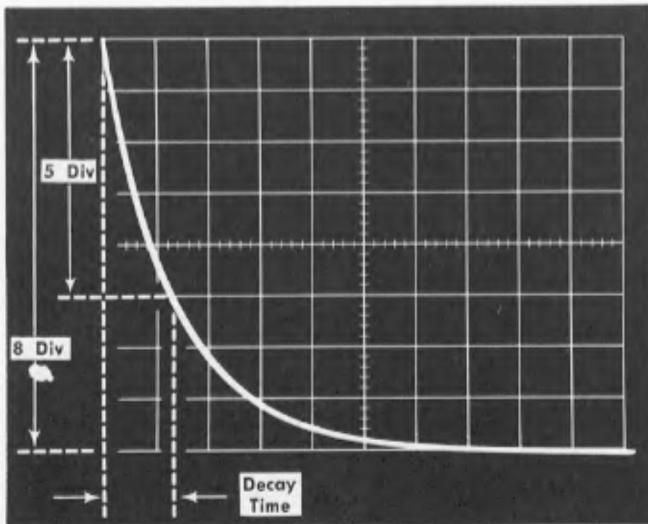

Fig. 5-5. Typical CRT display of decay time.
- h. Measure the decay time of the displayed waveform as shown in Fig. 5-5.